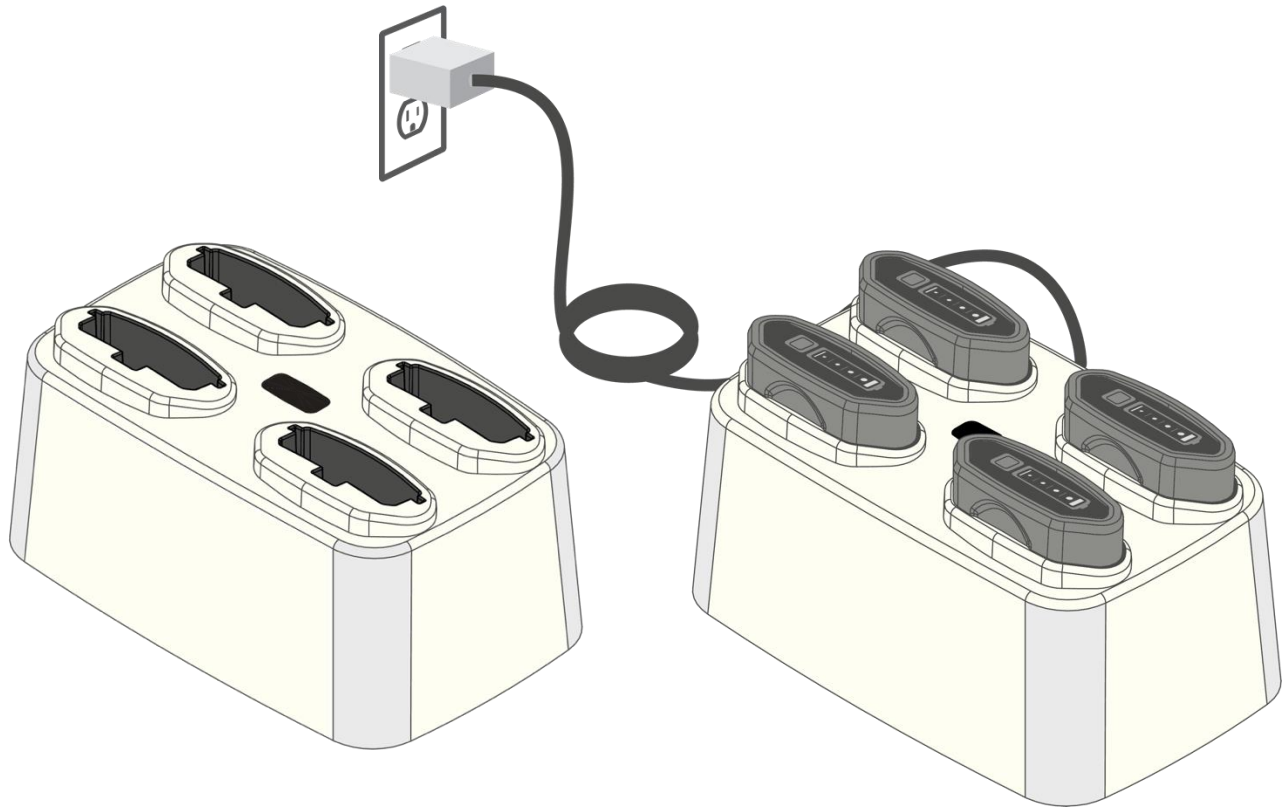

Figure 12 Charging B27 Batteries in a Quad-Bay Charger
5.9.2. The batteries can also be charged using the Quad-Bay battery charger (CRA-A274). Connect the Quad-Bay charger to the power supply provided for the charger and plug the power supply to an AC power source. Insert batteries into the charger (Figure 12). The batteries will start charging as the Power Gauge LEDs start flashing 4 second on and 1 second off. The LEDs will stay solid on when a battery is fully charged. The battery will be fully charged in approximately 4 hrs when using the quad-bay battery charger.